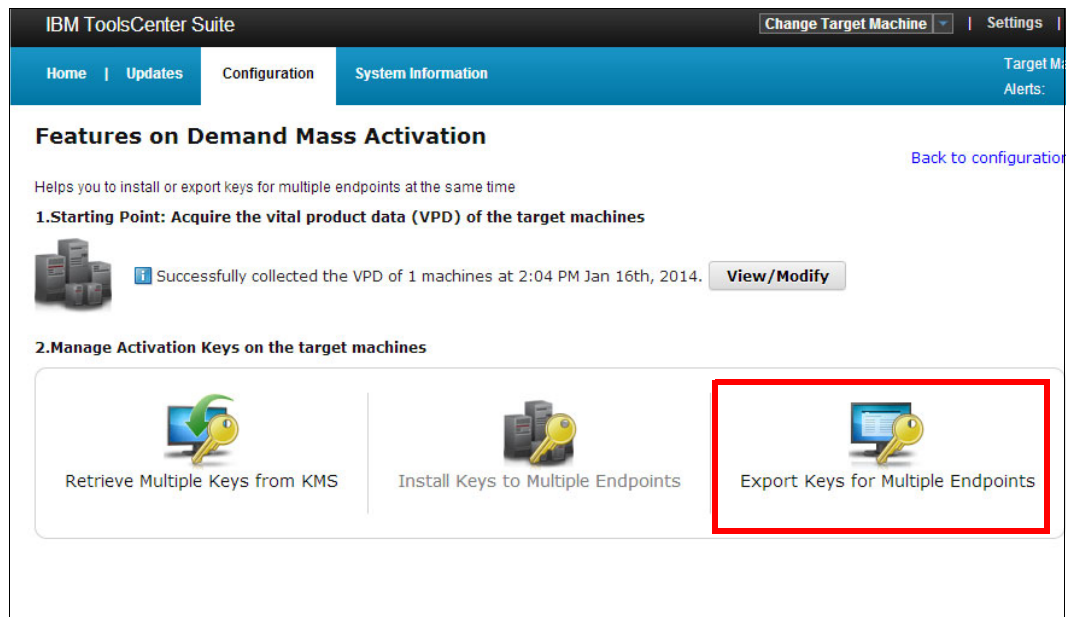

Figure 3-63 Export Keys for Multiple Endpoints menu selection
1. From the main TCS window, click the **Configuration** tab. Then, click **Export Keys for Multiple Endpoints**, as shown in Figure 3-63.